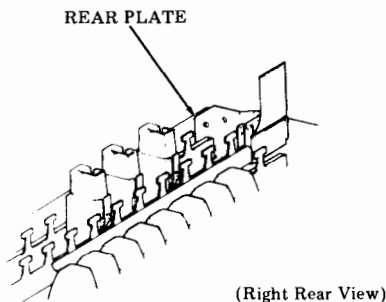

Fig. 17—Cable Removal
- (g) Remove rear plate (Fig. 17).
- (h) Slide cable to the right until it clears the circuit card. Remove through opening between channels (Fig. 17).